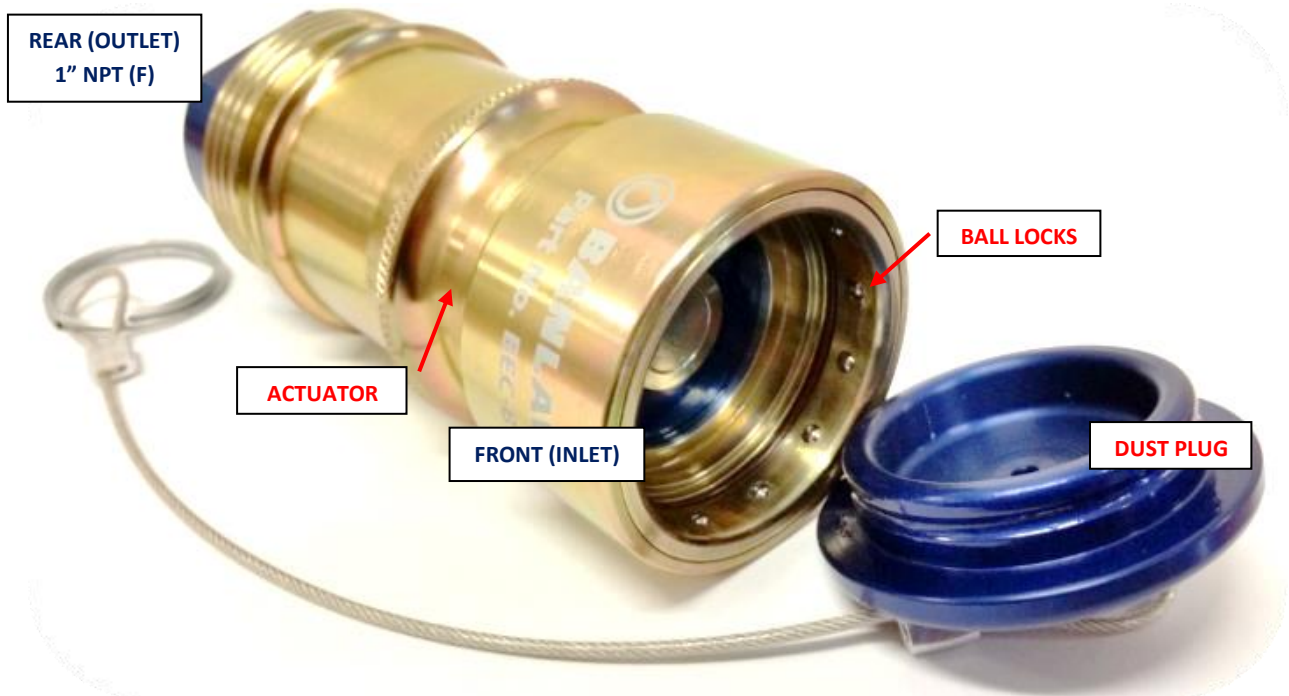

Figure 5 - Key Features
- **Internal Check Valve;** to prevent reverse flow, i.e. the flow of waste fluid back into its source – refer Figure 5. This normally-closed spring-biased check valve is actuated by differential fluid pressure across the valve.